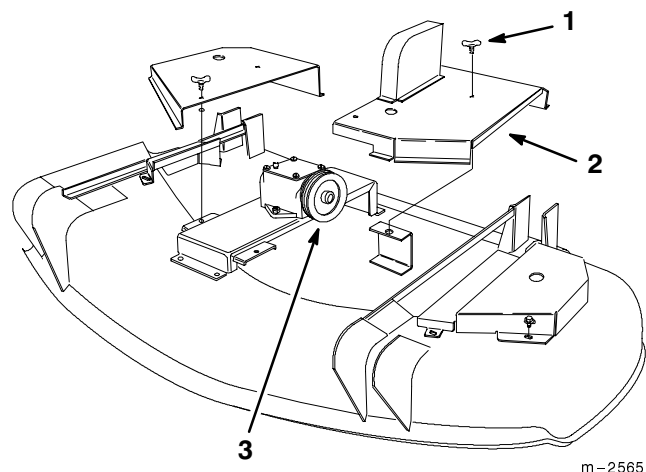

Figure 4
1. Rotate the two wing head studs on the left center deck cover 1/4 turn counterclockwise. Remove the left center deck cover to expose the gearbox input pulley (Fig. 4).
4. Reinstall the left center deck cover onto the deck, then rotate the two wing head studs 1/4 turn clockwise to secure the cover to the deck (Fig. 4 on page 7).